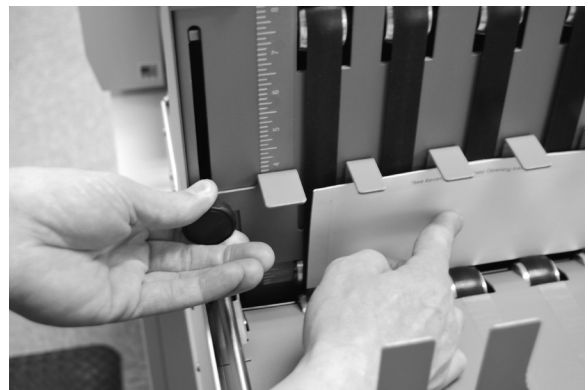

Fig 2
2. Holding the folded piece in position, loosen the black knobs on either side of the paper stop. (Fig 2)